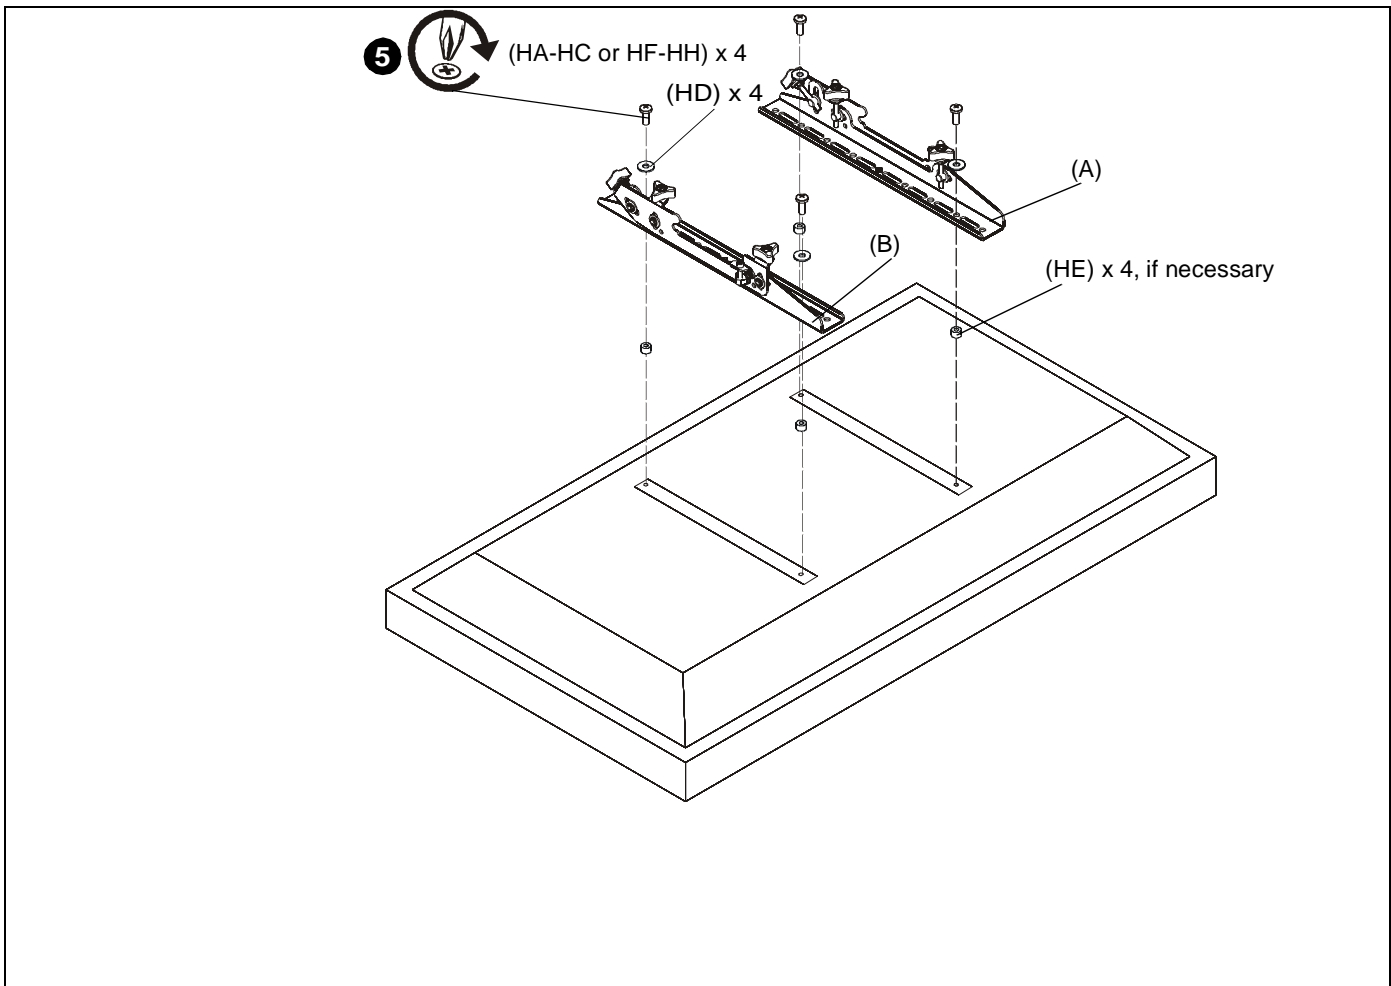

Figure 7
2. Select screw *diameter* by examining hardware (HA-HC and HF-HH) (6mm or 8mm) and comparing with mounting holes on display. (See Figure 7)
- If mounting holes are recessed, or if protrusions prevent brackets (A and B) from laying flat, then spacers (HE) must be used.
4. Select screw *length*: (See Figure 7)
- Using your hand, insert **SHORTEST** length screw of selected diameter (HA or HF) through 1/4" washer (HD), bracket (A or B), selected spacer (HE, if required), into display mounting hole. Do **NOT** thread screw into hole at this time.
5. Use selected screws (HA-HC or HF-HH), washers (HD) and spacers (HE), if necessary, to connect interface brackets (A and B) to back of display. Make sure diamond on interface brackets is even with center of display. (See Figure 7)